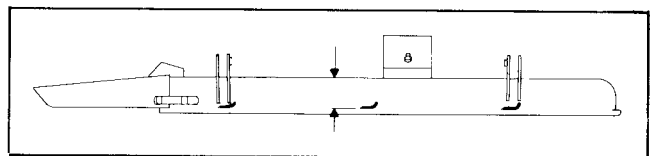

Figure 23
2. Rotate blade until the ends face forward and backward (Fig. 23). Measure from inside of cutting unit to cutting edge at front of blade (Fig. 23), and remember this dimension.